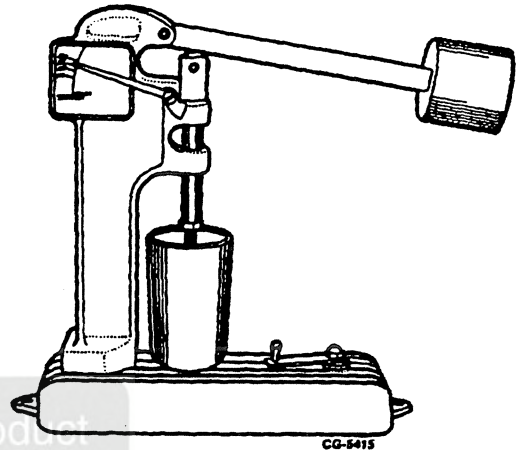

Figure 4.6 Hydraulic Valve Lifter Tester
1. Use the ZTSE-1893 Leakdown Tester, Figure 4.6, for checking the leak down rate. Follow instructions which accompany the tester.